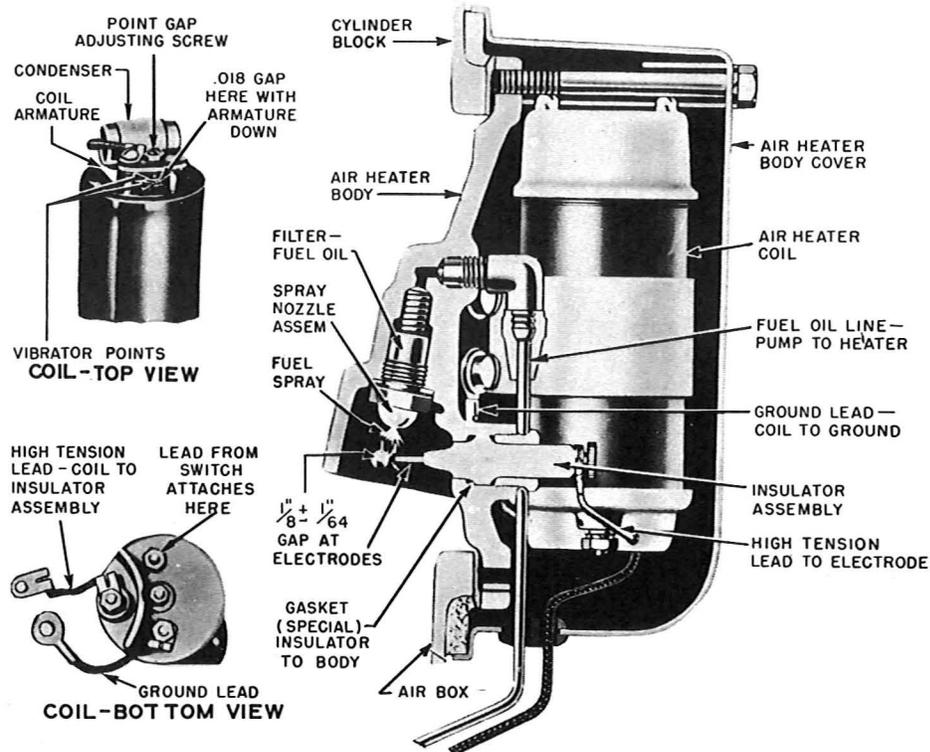

Fig. 14 - Air Box Heater for Cold Weather Starting
(1) If the engine fails to start in cold weather after two or three strokes of the heater pump knob located on the instrument panel, made while cranking the engine with wide open throttle, the engine cranking should be stopped and a check for possible causes of failure should be made.
(2) Before checking for possible causes of heater failure, make certain the engine is in running order and the cranking speed is 80 rpm or more. Having determined these to be satisfactory, investigate the heater for failure of ignition or poor oil spray.
(3) Remove the air box heater (see Fig. 14) from the cylinder block, and reassemble the heater unit away from the engine.